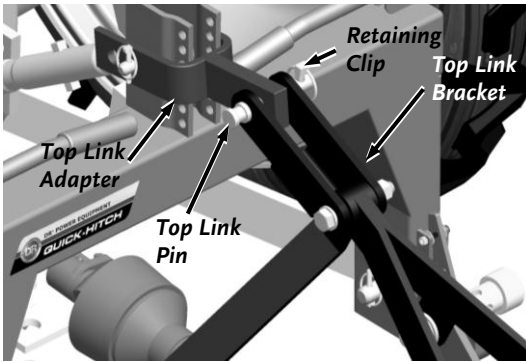

Figure 10
8. Attach the Top Link Adapter to the Floating Top Link Bracket on the Implement using the Implements Top Link Pin and Retaining Clip (**Figure 10**).